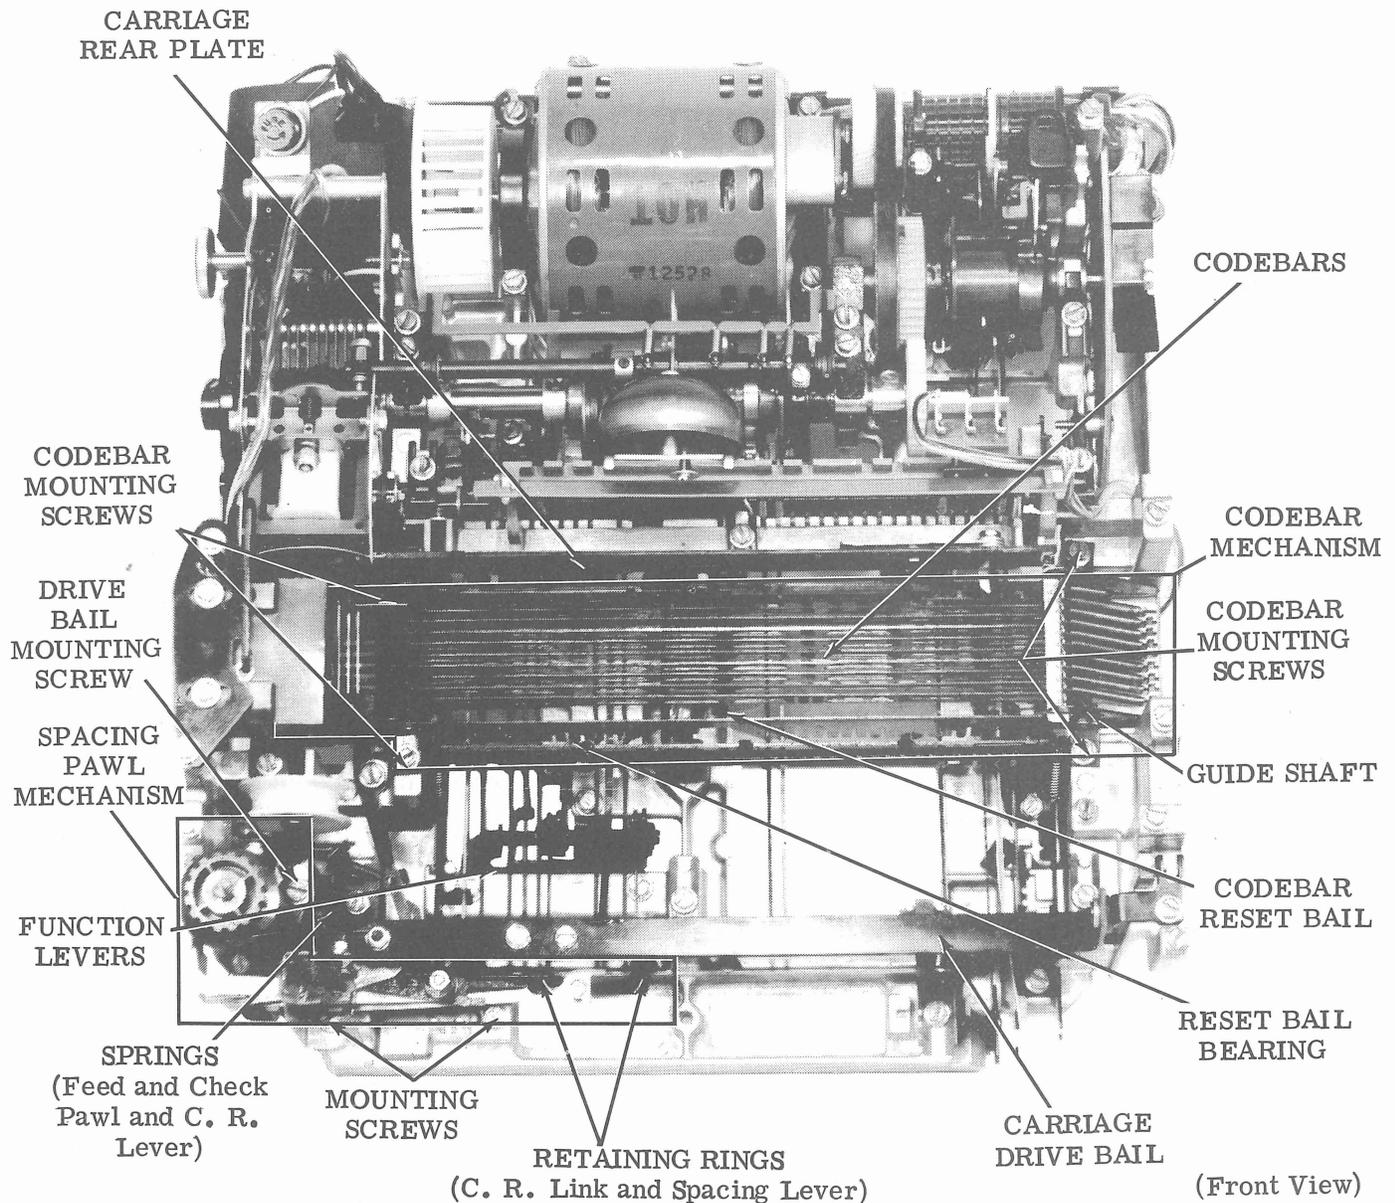

Figure 2 - Typing Unit (Carriage and Platen Removed)
2.04 To remove codebar mechanism (Figure 2), proceed as follows.
2.05 To remove codebar reset bail (Figures 2 and 3), proceed as follows.
2.06 To remove spacing pawl mechanism (Figure 2), proceed as follows.
- 2.12 To remove function box mechanism (Figures 2, 4, and 7), proceed as follows.